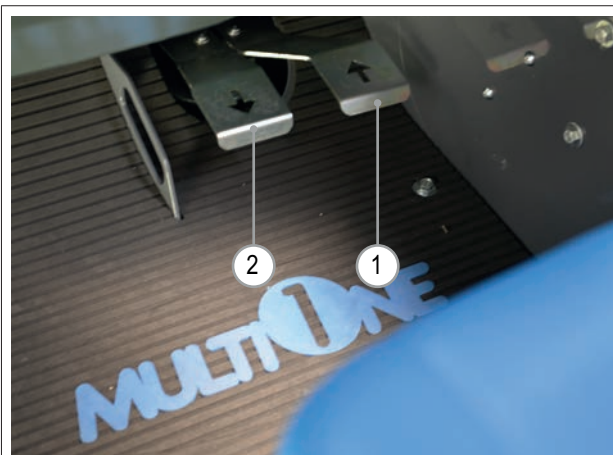

FIG. 28
- 4) Press the pedal relative to the direction of “**Forward**” (**FIG. 28 - Ref. 1**) or “**Reverse**” (**FIG. 28 - Ref. 2**).